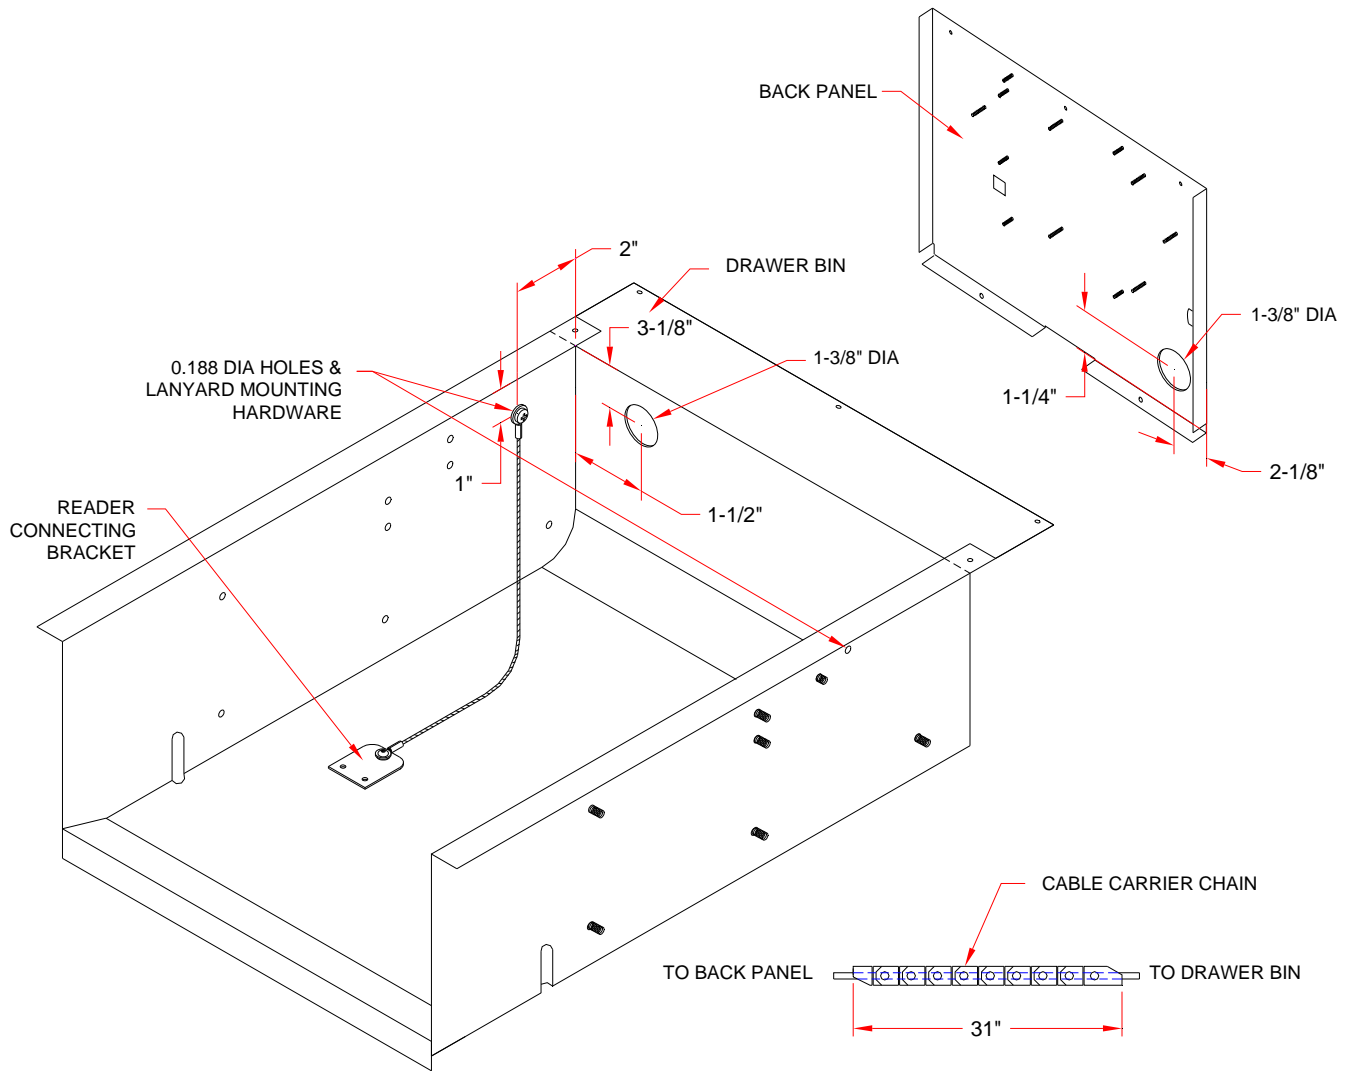

FIGURE 2
4. Mark the locations for the (2) 3/16" (0.188") holes in the sides of the red drawer bin and the (1) 1 3/8" (1.375") diameter holes in the lower corner of the back panel and the upper corner of the red drawer bin (Figure 2).
10. Remove the snap cable carrier zippers, from the cable carriers (Figure 2).
21. Install the other end of the lanyard to the credit card reader with the connecting bracket (Figure 2).